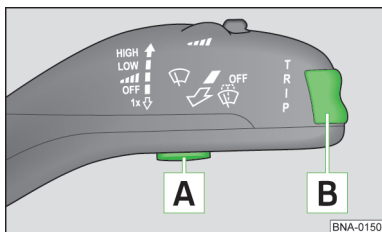

Fig. 3
To change between the two memories, press the OK/RESET  A » fig. 3 » page 11 button while the ignition is switched on and memory 1 or 2 is displayed.
- › Press the **OK/RESET** button repeatedly **A** » fig. 3 until you see the desired memory.